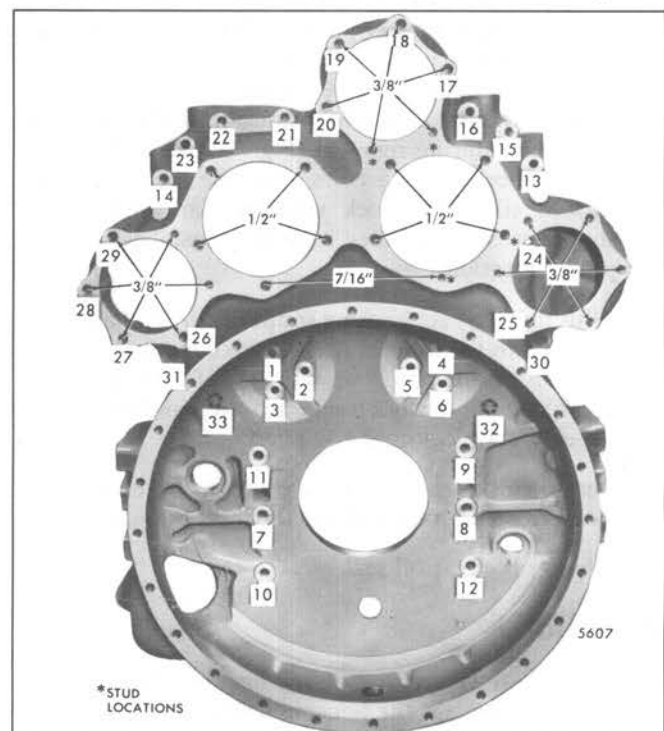
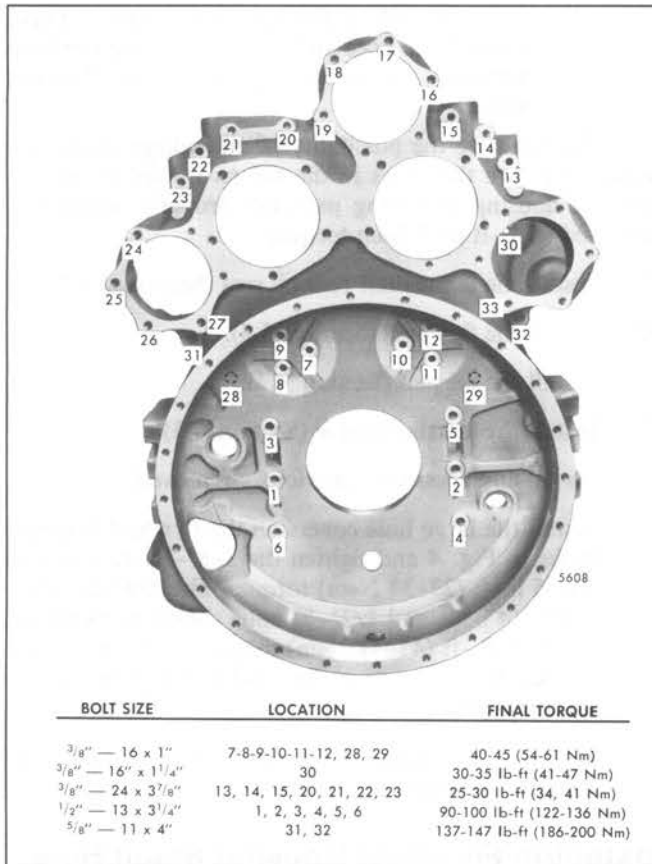

Fig. 4 - Flywheel Housing Bolt Tightening Sequence
Fig. 5 – Flywheel Housing Bolt Tightening Sequence (Operation 2)
5. Install all of the flywheel housing bolts, washers and lock washers, while removing the pilot studs, finger tight only (refer to Fig. 4). Refer to figure 4 and install the 3/8"-16 x 1.255" sealant-coated flange hex head bolts in dummy hub and idler hub positions 1 through 6. These bolts replace the former standard hex head bolt and washer. Flange hex head bolts should not be used with a washer. Install three *new* flywheel housing nylon patch bolts at the right bank camshaft gear area (positions 13, 14 and 15 in Fig. 5). Whenever the sealant patch bolts are removed, they should be replaced with *new* sealant patch bolts at both the *idler gear spacer and idler gear* positions.
6. Refer to Fig. 4 for the bolt tightening sequence and, starting at number 4 on a right-hand rotation engine or at number 1 on a left-hand rotation engine, draw the flywheel housing bolts up snug. If the idler gear hole spacer is integrally cast into the housing, be sure the shim is in place. When tightening the flywheel housing bolts, the idler gear hub bolts should always be tightened first. Also, turn the crankshaft by hand while tightening the idler gear hub bolts to prevent any bind or brinelling of the rollers and cups of the tapered roller bearing.
7. Refer to Fig. 5 for the final bolt tightening sequence and, starting at number 1, tighten the flywheel housing bolts to the specified torque. Tighten the 3/8"-24 bolts to 25-30 lb-ft (34-41 N•m) torque, the 3/8"-16 flange hex head idler gear hub and idler gear hole spacer bolts to 30-35 lb-ft (41-47 N•m) torque, the remaining 3/8"-16 bolts (number 30 with nylon patch) to 30-35 lb-ft (41-47 N•m) torque and the 1/2"-13 bolts to 90-100 lb-ft (122-136 N•m) torque. Tighten the two (2) 5/8"-11" outboard flywheel housing bolts on the left and right side to 137-147 lb-ft (186-200 N•m) torque. Be sure to rotate the crankshaft when tightening the idler gear hub bolts.